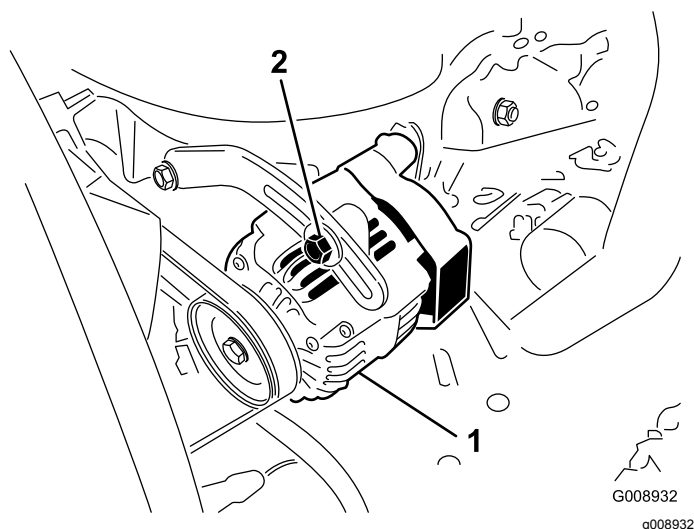

Figure 105
Check the condition and tension of the belts (Figure 105) after every 100 operating hours.
3. If the deflection is not 10 mm (3/8 inch), loosen the alternator mounting bolts (Figure 105).